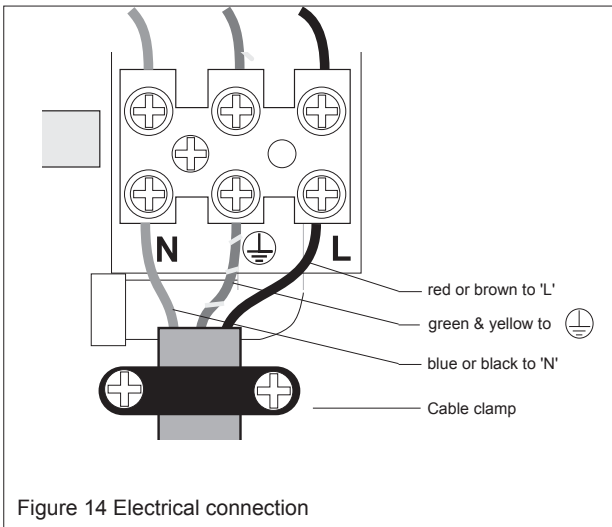

Figure 14 Electrical connection
- 6.5 Remove the screws and clamping bar from the cable clamp - see Figure 14.
- 6.8 Strip the insulation from the cores and make connections - see Figure 14.